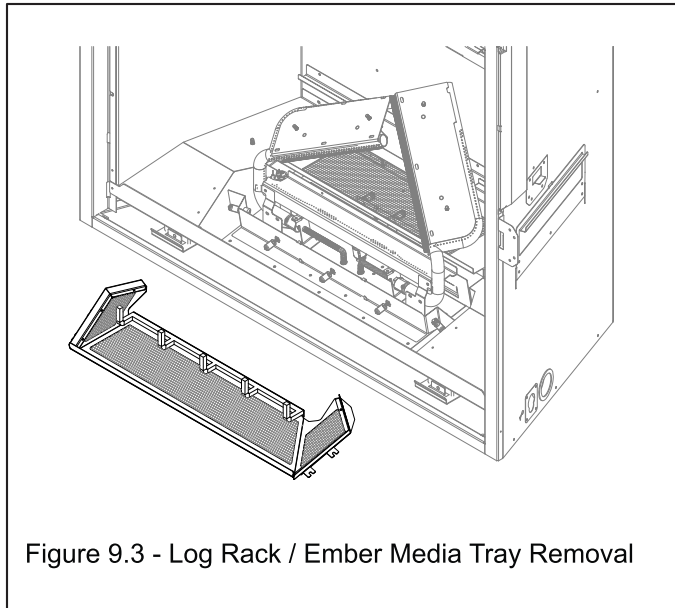

Figure 9.3 - Log Rack / Ember Media Tray Removal
3. Remove and retain (4) screws from the log rack/ember media tray. Lift tray up and out of firebox. See Figure 9.3.
4. Install (5) halogen bulbs (included in components packet) into the lamp bases.
3. Remove and retain (4) screws from the log rack/media tray. Lift tray up and out of firebox. See Figure 9.3.